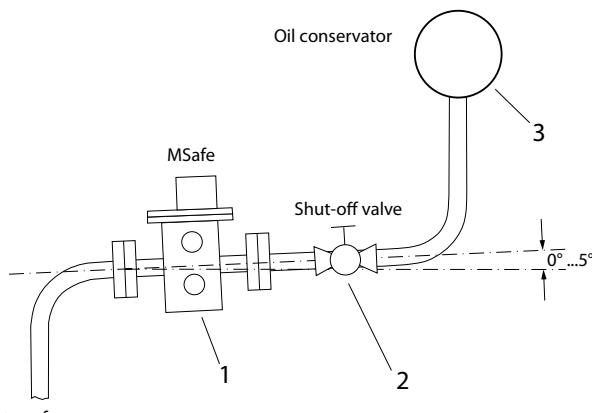

Fig. 5
- The inclination of the device in the direction of the pipe may not be less than 0 degrees and not more than 5 degrees (Fig. 5).
- Open shut-off valve to oil conservator (Fig. 5/2).